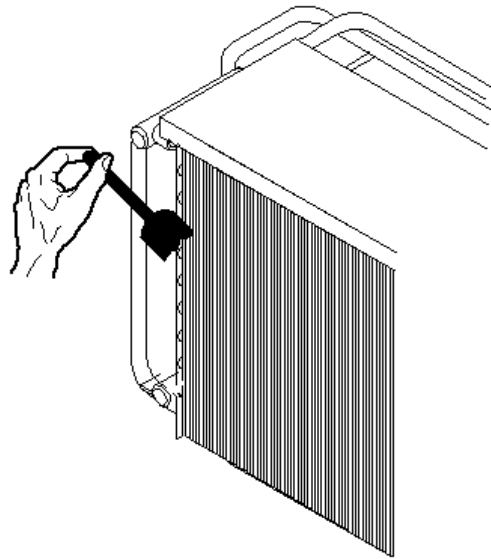

fig. 7
- Remove the dust and the dirt in the condenser fins using a brush or a vacuum cleaner with a soft brush attachment (see fig. 7)